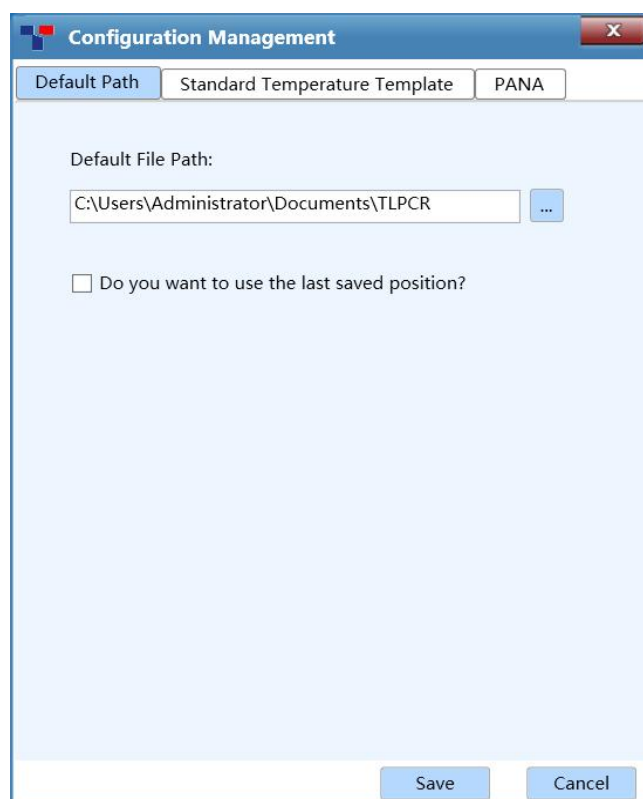

Figure D-3.7a. Option Submenu - Configuration Management Interface - Default Path Tab
1. **Configuration Management**: Click **Configuration Management** option in the **Option** submenu and the application software will automatically pop up the configuration management interface, as shown in figure D-3.7a.
- ▶ **Default Path** tab: the configuration management interface displays the **Default Path** tab by default, as shown in figure D-3.7a.